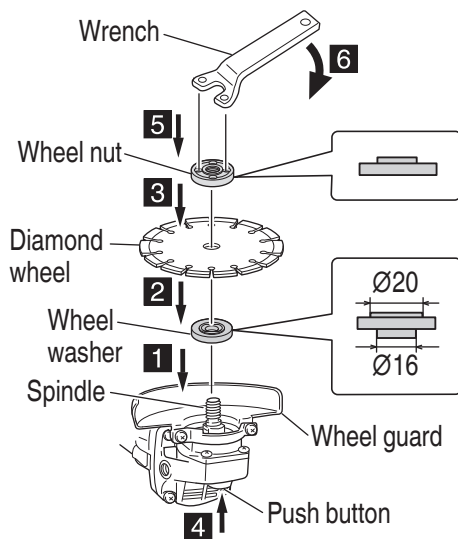

Fig. 8
ASSEMBLING AND DISASSEMBLING THE DIAMOND WHEEL (Fig. 8)
1. Assembling (Fig. 8)
- (1) Turn the disc grinder upsidedown so that the spindle is facing upward.
- (2) On the spindle, place the $\varnothing 16$ wheel washer towards the spindle and then attach the diamond cutter.
- (3) From the top of the diamond cutter, place the depressed side of the wheel nut towards the diamond cutter and attach to the spindle.
- (4) Screw the wheel nut onto the spindle.
- (5) While pushing the push button with one hand, lock the spindle by turning the depressed center wheel slowly with the other hand. Tighten the wheel nut by using the supplied wrench as shown in Fig. 8. Use a dry type diamond cutter.